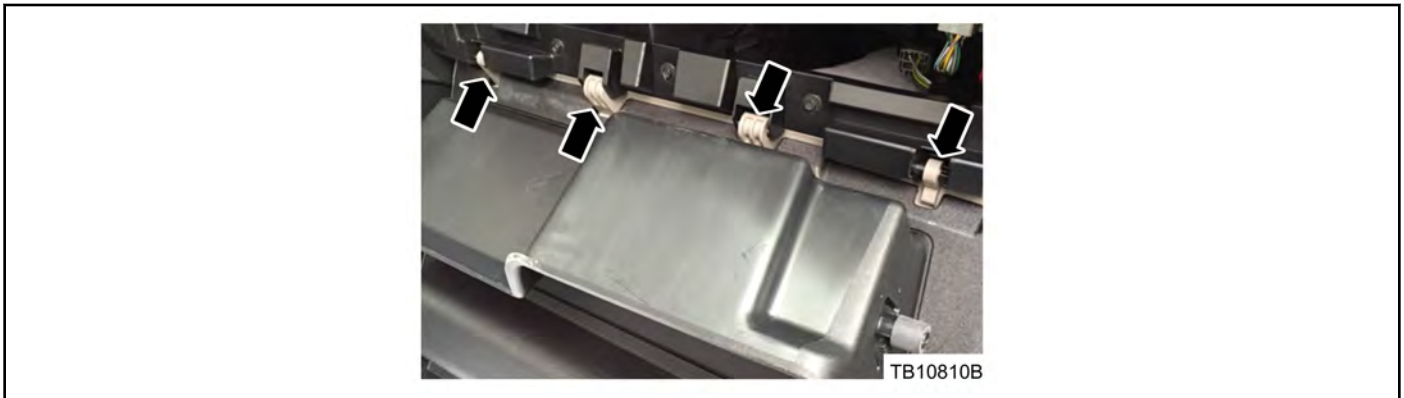

Figure 1 - Article 16-0005
2. Inspect both glove compartment hinge pins to make sure they are properly installed through the glove compartment hinge and supported at both ends by the instrument panel. (Figure 1)